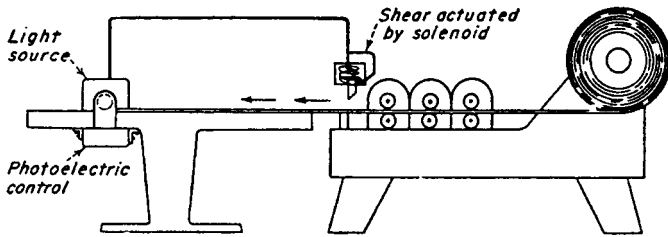

Fig. 4
**Fig. 4** This cut-off machine has a photoelectric control for strip materials that lack sufficient mass to operate a mechanical limit switch satisfactorily. The forward end of the strip breaks the light beam, thus actuating the cut-off operation. The light source and the control are mounted on an adjustable stand at the end of the machine to vary the length of the finished stock.